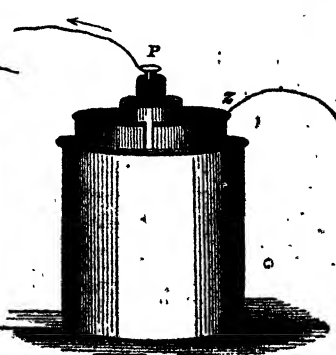

FIG. 17.
*Smee's Battery* is one of those that require only one exciting liquid. On a wooden bar is attached a platinized silver plate, P, with a binding-screw on its upper surface. On each side of the bar are placed two large plates of zinc, kept together by a metal clamp. When required for action, the jar, or gutta-percha cell, is charged with common sulphuric acid (1 part to 7 of water); the plates are then dipped in. This arrangement is one very frequently used, and very much so for electrotyping. (Fig. 17.)